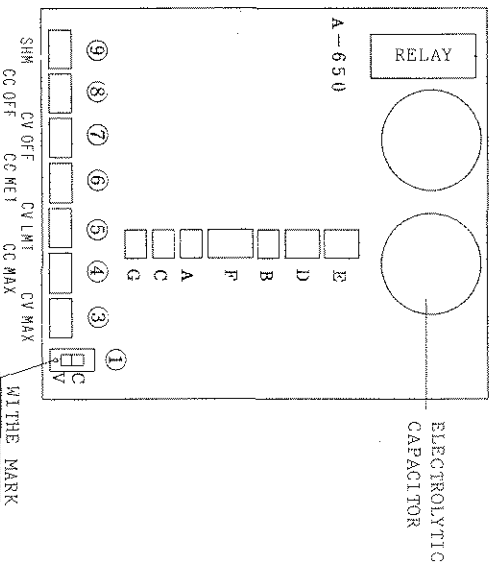

Figure 4-5. Layout of components of PC board A-650
(2) Turn on the OUTPUT switch. Adjust the CV OFF potentiometer (⑦ in Figure 4-5) so that the digital meter indicates the same value.
(3) For the models whose rated output voltages are 110 V or lower, turn on the OUTPUT switch and set the output voltage at 17.50 V. For the models whose rated output voltages are 250 V or higher, set the output voltage at 175.0 V.
- (4) Turn off the output switch. Adjust the CV IMT potentiometer ((5) in Figure 4-5) so that the digital meter indicates the same value.
- (1) Press the A (ammeter) switch and turn off the OUTPUT switch.
- (2) Adjust the CC OFF potentiometer ((8) in Figure 4-5) so that the digital meter reads 0 A (zero amperes).
- (3) Connect an ammeter (or a shunt resistor) of an accuracy of 0.2% or better to the output terminal and feed the current (I_L) shown in Table 4-3.
- (4) After feeding the current for approximately 20 minutes, adjust the CC MET potentiometer so that the meter indicates the value of output current I_L.
- (1) Press the V (voltmeter) switch and turn on the OUTPUT switch.
- (2) Turn both COARSE and *FINE VOLTAGE setting potentiometers to the clockwise extrem position. Adjust the CV MAX potentiometer ((3) in Figure 4-5) so that the output voltage becomes E_o (maximum voltage) shown in Table 4-3. (*: The PAB10-0.6A, PAB250-0.25A and PAB350-0.1A have no FINE VOLTAGE setting potentiometer.)
- (1) Connect an ammeter of an accuracy level of approximately 0.5% to the output terminal.
- (2) Turn the COARSE CURRENT setting potentiometer (including the FINE CURRENT setting potentiometer if the FINE VOLTAGE potentiometer has been modified to it) to the clockwise extreme position. Adjust the CC MAX potentiometer (④ in Figure 4-5) so that the output current becomes I_0 (maximum current) shown in Table 4-3. (The PAB110-0.6A, PAB250-0.25A and PAB350-0.1A have no FINE setting potentiometer.)
- (1) Press the $\bar{V}$ (voltmeter) switch and turn on the OUTPUT switch.
- (2) Increasing gradually the output voltage, adjust the SHM potentiometer (⑨ in Figure 4-5) so that the relay trips at the voltage of E_1 shown in Table 4-3.